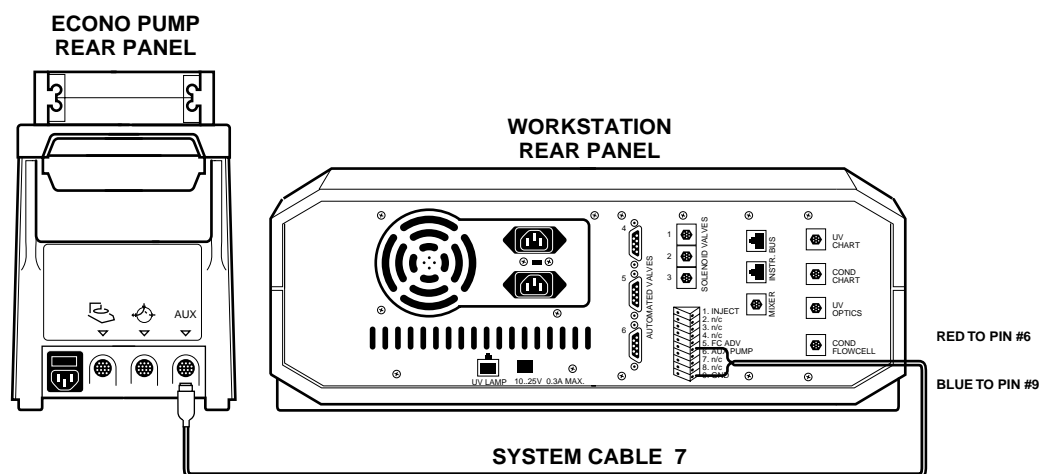

Figure 8-6. Connecting an EP-1 Econo Pump to the DuoFlow Workstation
2. Connect the red and blue wires on the cable to the DuoFlow Workstation. (See Figure 8-6.)